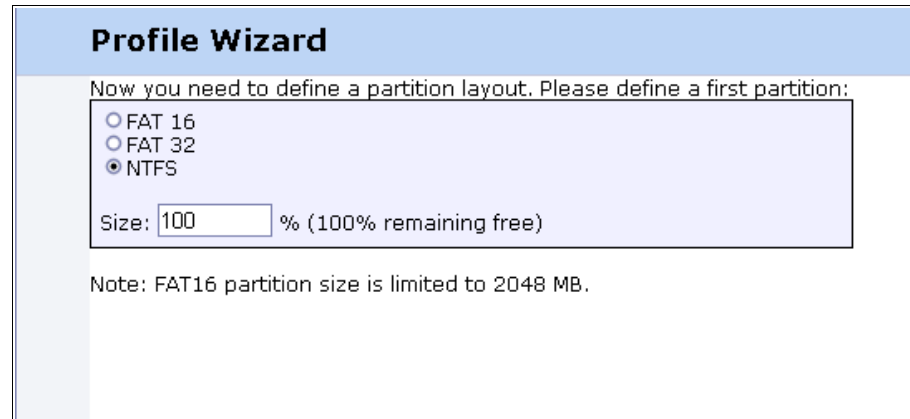

Figure 2-12 Specify filesystem type and size in percentage format
9. Next we specify NTFS as the filesystem type and to use the entire disk as shown in Figure 2-12